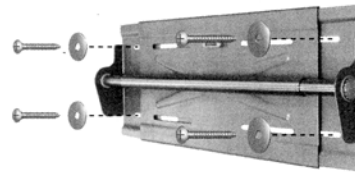

Fig. 2 - Secure the mount to the wall
5. With the help of another person, secure the mount to the wall using the Drywall Screws (Q) and Washers (R) provided (Fig. 2).
6. Insert a Concrete Anchor (P) from the hardware kit into each hole. A hammer can be used to lightly tap each anchor into place if necessary.
7. Move the wall plate back into position and secure it to the wall using the Drywall Screws (Q) and Washers (R) provided in the hardware kit (Fig. 2).